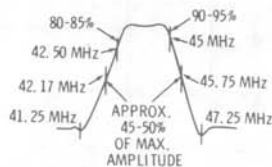

Figure 22
- ( ) Check the overall IF response curve shown in Figure 22 to make sure the Video IF is aligned properly. Make sure the AFT switch is turned off.